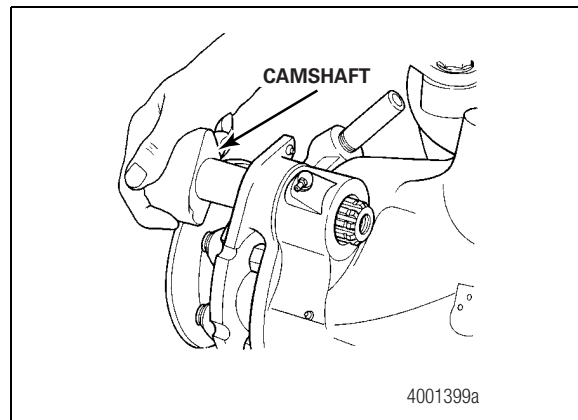

Figure 5.17
4. Install the splined end of the camshaft through the bearing cage and the differential carrier. Be careful not to damage the bushings and the oil seal when you install the camshaft. Figure 5.17.